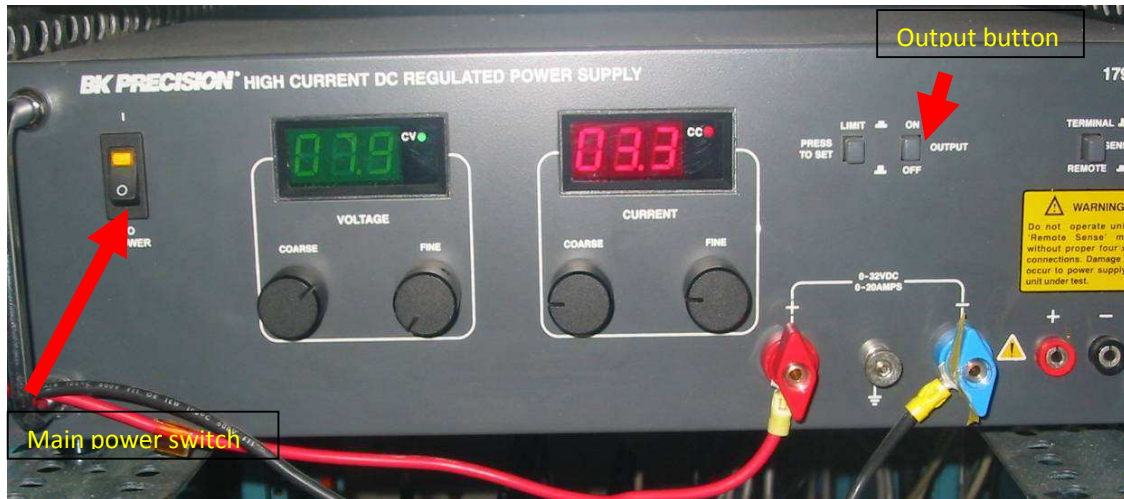

Figure 8: BK Precision power supply
The next step is to turn on the BK Precision power supply. This is done by setting the power switch to I and pressing the output button inwards (Figure 8). To set the power supply to current mode the voltage has to be increased to the maximum followed by a current decrease until the red light in the current display (CC) lights up. Now the current can be set.